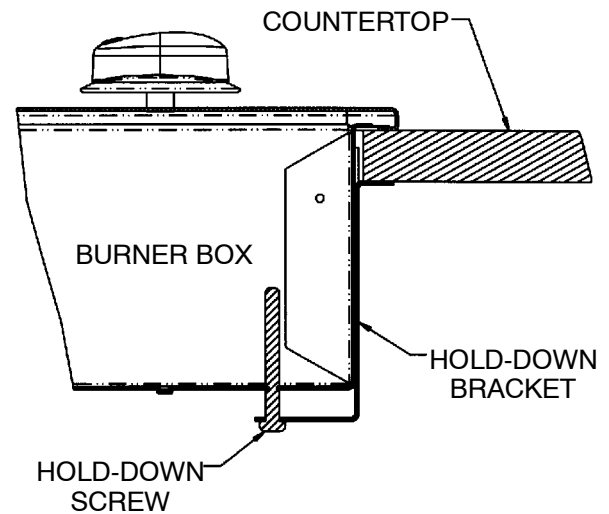

FIGURE 18
4. Remove hold down brackets. (See figure 18).